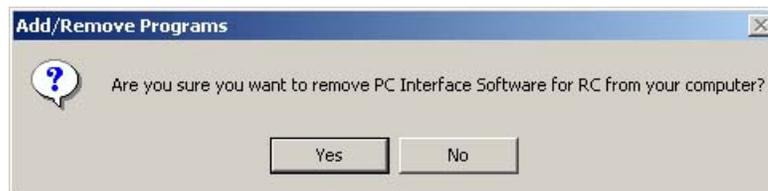

Fig. 1.13 File Delete Check
- [3] When a file delete check window (Fig. 1.13) is displayed, click **Yes**.